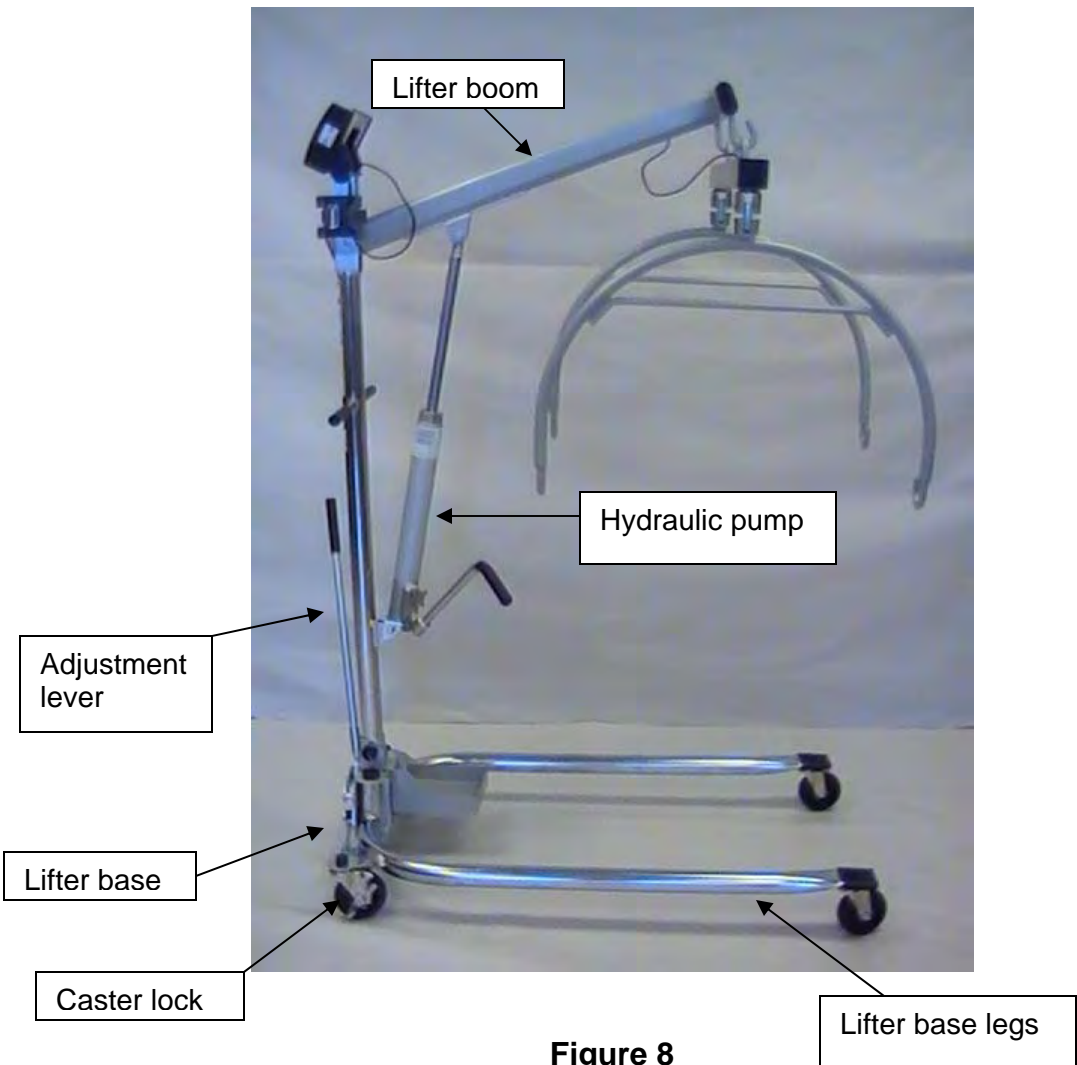

**Figure 6**
19. To operate the hydraulic pump, pump the handle in an upward and downward motion to elevate the lifter boom. Make certain the control valve knob (located on the hydraulic pump near the handle) is fully tightened clockwise. This enables the hydraulic pump to be operational (see Figure 6).
20. To lower the lifter boom, slowly turn the control valve knob counterclockwise. The rate of descent can be controlled by varying the knob's position. The lifter boom may not lower readily without weight. To test, simply apply downward force to the lifter boom (see Figures 6 & 8).